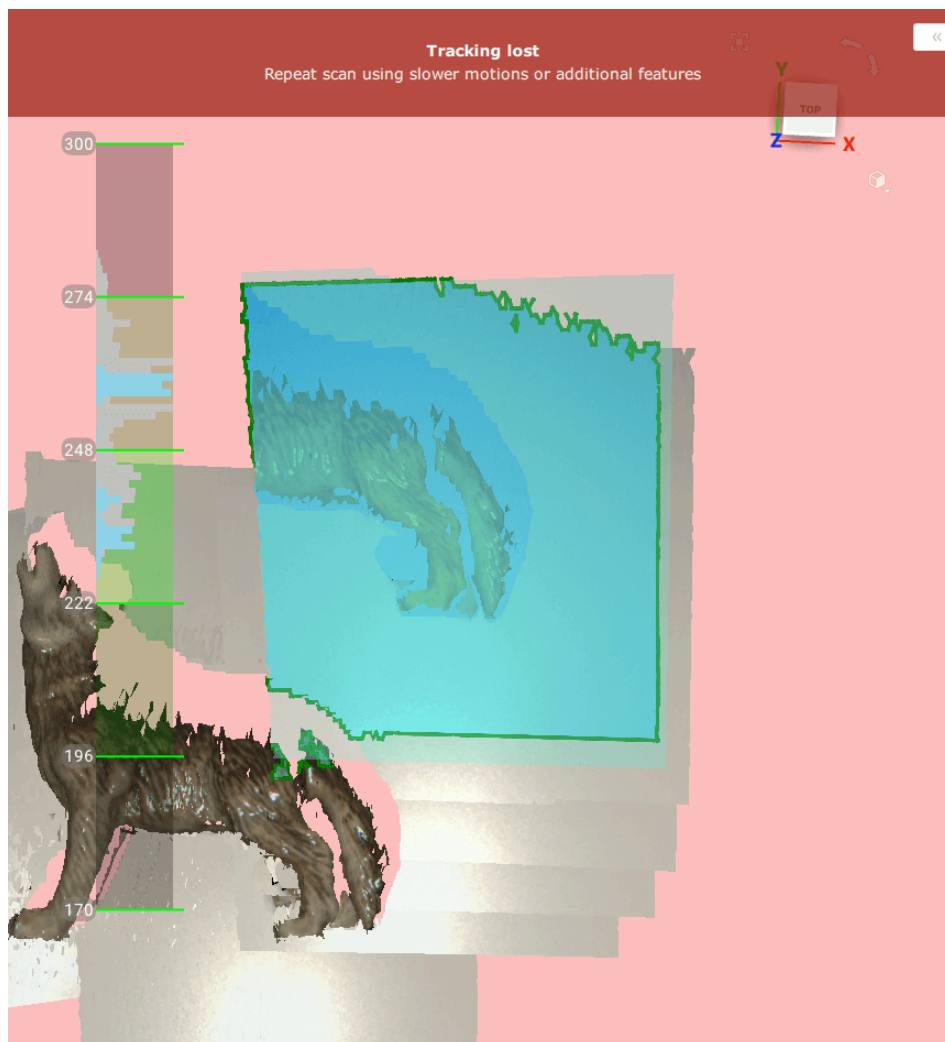

Figure 43: Alert message: tracking lost.
- Artec Studio switches almost instantly from displaying *Tracking lost* mode (see Figure 43) to *Searching for position*, which appears on a green background.